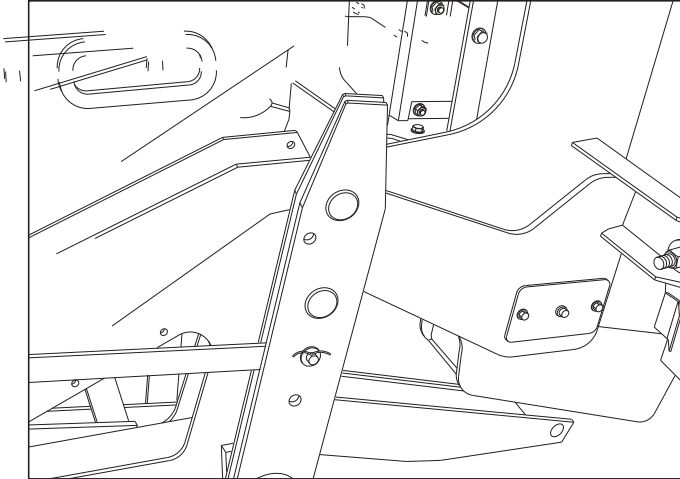

Figure 14 Align
4. Align and adjust the attachment throat sides between the Forage Harvester sides and the feed rolls (figure 14).